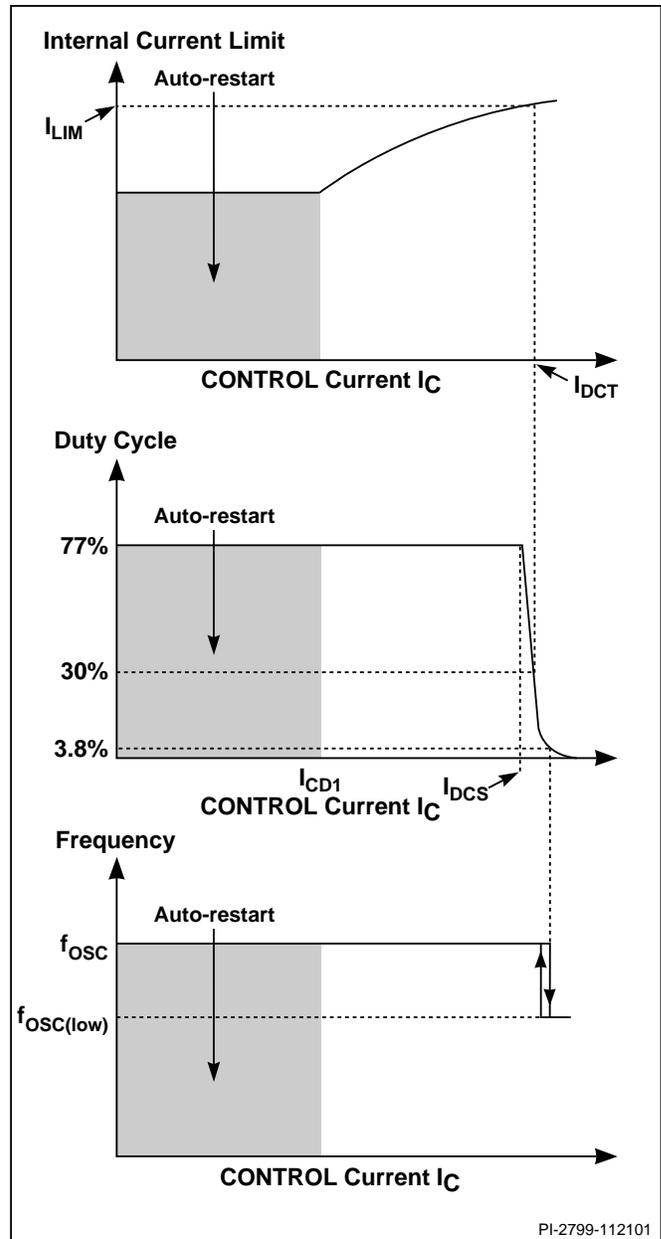
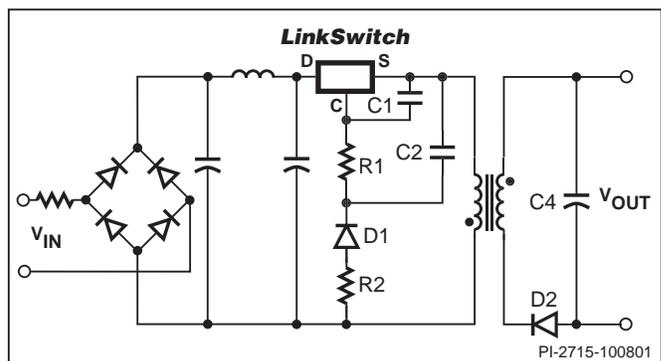
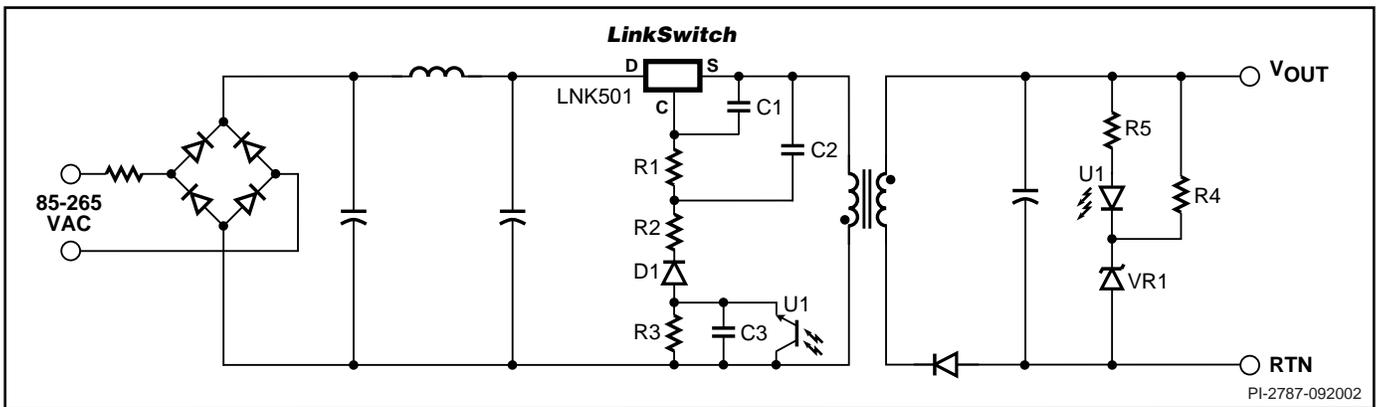

Figure 4. CONTROL Characteristics.
Figure 5. Power Supply Outline Schematic.
Figure 6. Power Supply Outline Schematic with Optocoupler Feedback.
The duty cycle, current limit and operating frequency relationships with CONTROL pin current are shown in Figure 4. Figure 5 shows a typical power supply outline schematic which is used below to describe the *LinkSwitch* operation.
During power up, as V_{IN} is first applied (Figure 5), the CONTROL pin capacitor C1 is charged through a switched high voltage current source connected internally between the DRAIN and CONTROL pins (see Figure 2). When the CONTROL pin voltage reaches approximately 5.7 V relative to the SOURCE pin, the high voltage current source is turned off, the internal control circuitry is activated and the high voltage internal MOSFET starts to switch. At this point, the charge stored on C1 is used to supply the internal consumption of the chip.
As the output voltage, and therefore the reflected voltage across the primary transformer winding ramp up, the feedback CONTROL current I_C increases. As shown in Figure 4, the internal current limit increases with I_C and reaches I_{LIM} when I_C is equal to I_{DCT} . The internal current limit vs. I_C characteristic is designed to provide an approximately constant power supply output current as the power supply output voltage rises.
When I_C exceeds I_{DCS} , typically 2 mA (Figure 4), the maximum duty cycle is reduced. At a value of I_C that depends on power supply input voltage, the duty cycle control limits *LinkSwitch* peak current below the internal current limit value. At this point the power supply transitions from CC to CV operation. With minimum input voltage in a typical universal input design, this transition occurs at approximately 30% duty cycle. R1 (Figure 5) is therefore initially selected to conduct a value of I_C approximately equal to I_{DCT} when V_{OUT} is at the desired value at the minimum power supply input voltage. The final choice of R1 is made when the rest of the circuit design is complete. When the duty cycle drops below approximately 4%, the frequency is reduced, which reduces energy consumption under light load conditions.
Figure 6 shows a typical power supply outline schematic using *LinkSwitch* with optocoupler feedback to improve output voltage regulation. On the primary side, the schematic differs from
Figure 5 by the addition of R3, C3 and optocoupler U1. R3 forms a potential divider with R1 to limit the U1 collector emitter voltage.
The feedback configuration in Figure 6 is simply a resistive divider made up of R1 and R3 with D1, R2, C1 and C2 rectifying, filtering and smoothing the primary winding voltage signal. The optocoupler therefore effectively adjusts the resistor divider ratio to control the DC voltage across R1 and therefore, the feedback current received by the *LinkSwitch* CONTROL pin.
When the power supply operates in the constant current (CC) region, for example when charging a battery, the output voltage is below the voltage feedback threshold defined by U1 and VR1 and the optocoupler is fully off. In this region, the circuit behaves exactly as previously described with reference to Figure 5 where the reflected voltage increases with increasing output voltage and the *LinkSwitch* internal current limit is adjusted to provide an approximate CC output characteristic. Note that for similar output characteristics in the CC region, the value of R1 in Figure 5 will be equal to the value of R1+R3 in Figure 6.
When the output reaches the voltage feedback threshold set by U1 and VR1, the optocoupler turns on. Any further increase in the power supply output voltage results in the U1 transistor current increasing, which increases the percentage of the reflected voltage appearing across R1. The resulting increase in the *LinkSwitch* CONTROL current reduces the duty cycle according to Figure 4 and therefore, maintains the output voltage regulation.
transistor voltage and dissipation ratings and should be fully tested before finalizing a design. The values of C2 and C3 are less important other than to make sure they are large enough to have very little influence on the impedance of the voltage division circuit set up by R1, R3 and U1 at the switching frequency. Normally, the values of C2 and C3 in Figure 6 are chosen equal to the value of C2 in Figure 5, though the voltage rating may be reduced depending on the relative values of R1 and R2 discussed above. See Applications section for typical values of components.
The output voltage load variation can be improved to be $\pm 5\%$ across the whole load range by adding an optocoupler and secondary reference (Figure 6). The secondary reference is designed to only provide feedback above the normal peak power point voltage to maintain the correct constant current characteristic.
The schematic shown in Figure 5 outlines the key components needed for a *LinkSwitch* Supply.
As the SOURCE pins in a *LinkSwitch* supply are switching nodes, the copper area connected to SOURCE together with C1, C2 and R1 (Figure 5) should be minimized, within the thermal constraints of the design, to reduce EMI coupling.